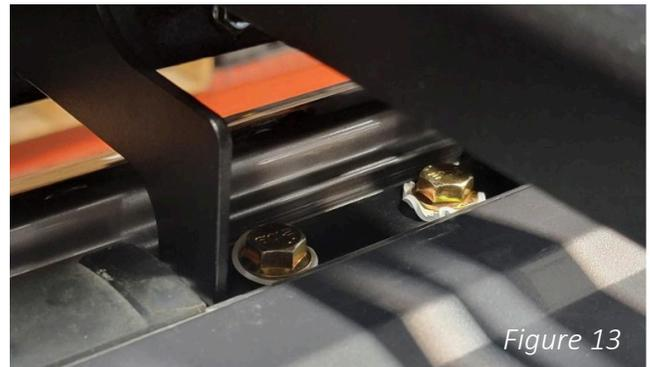

Figure 13
12. With assistance, lift the rack assembly onto the vehicle and on the mounts from step 5. Place the center mounts from step 6 onto the OE center locations and use 2x M8 flange bolts with 2x rubber sealing washers to loosely install them per side. Place a small amount of the provided 242 Loctite on each bolt before installation Figure 13.